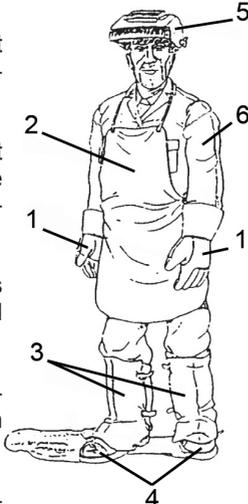

Fig.1
• Workers and their assistants must protect themselves by wearing closed, non-flammable protection coveralls, without pockets or rolled sleeves or legs. Any residue of oil or grease must be cleaned from the garments before wearing them. Only wear EC marked garments suitable for arc welding (Fig. 1):